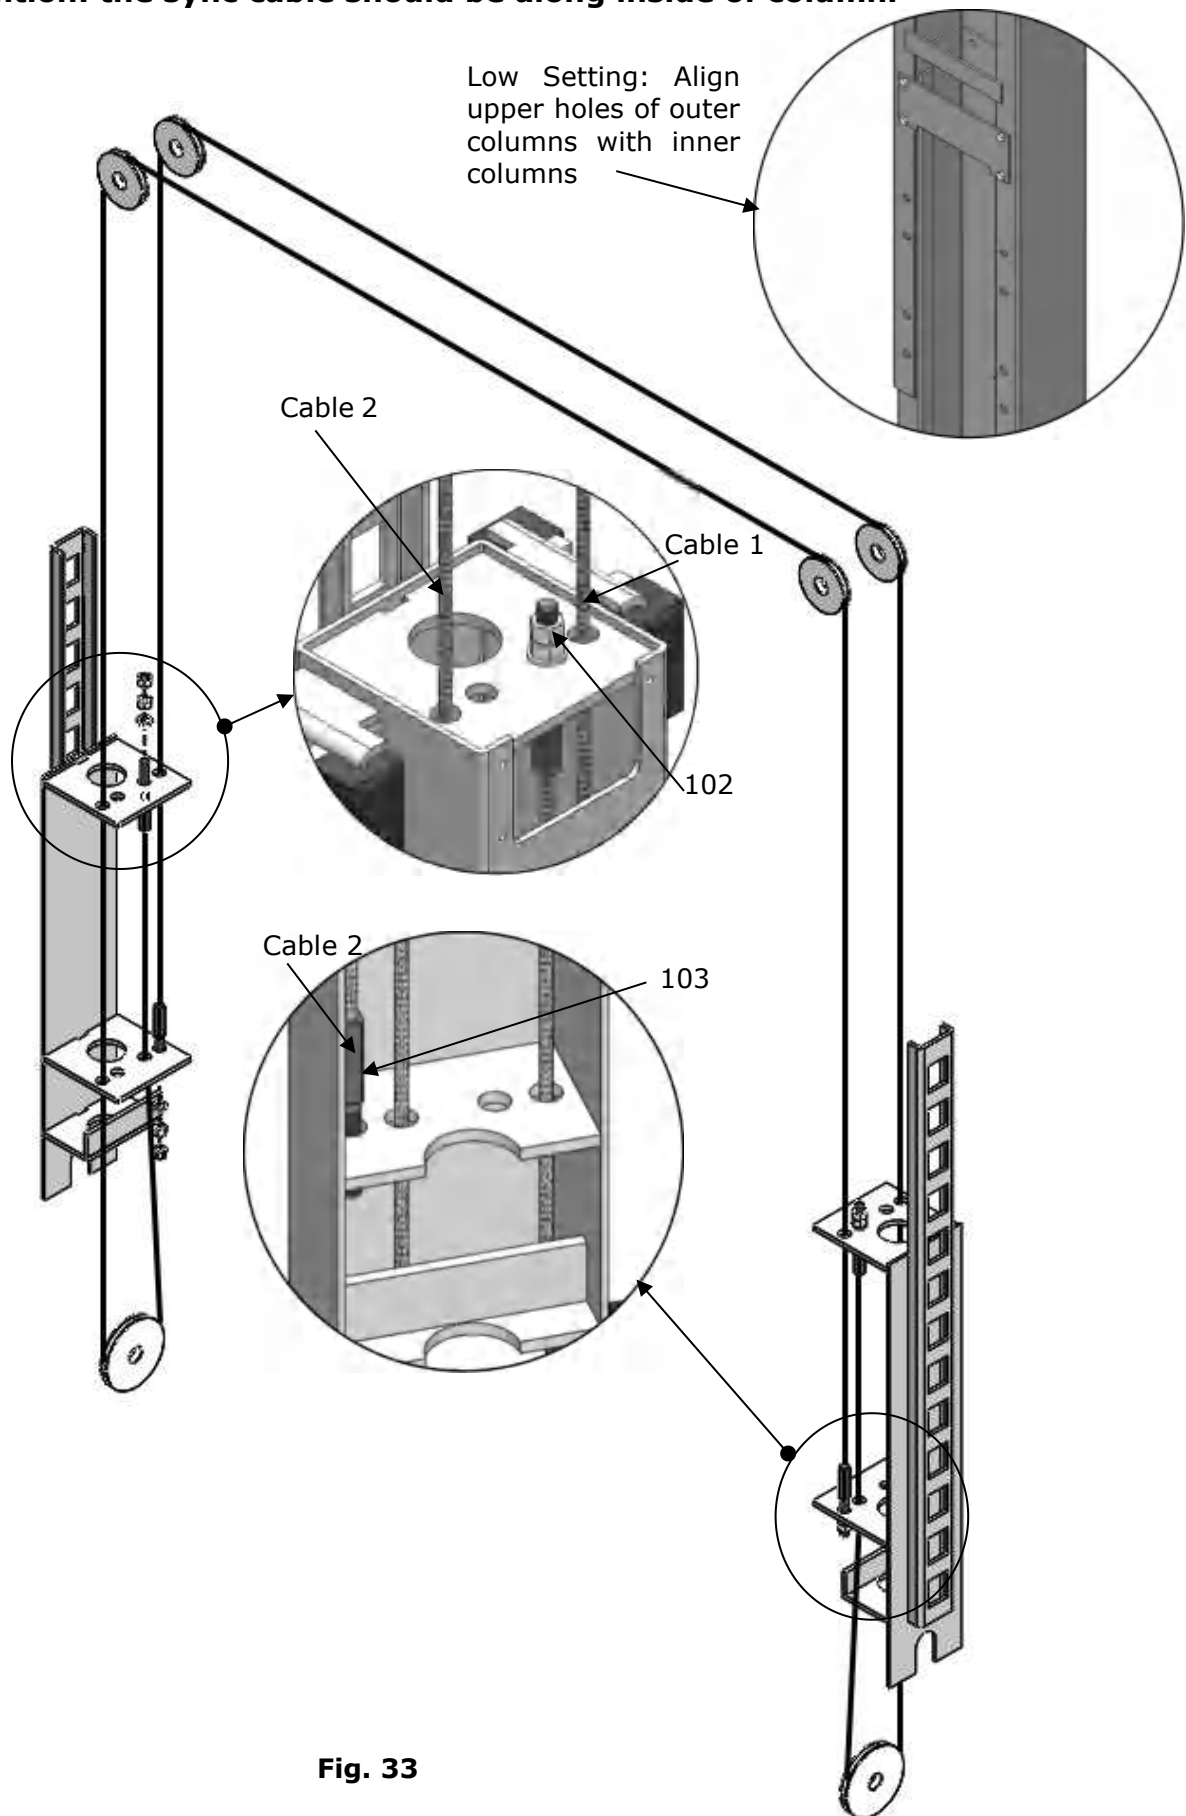

Fig. 33
3. Sync cable connection of low setting installation (See Fig. 33).